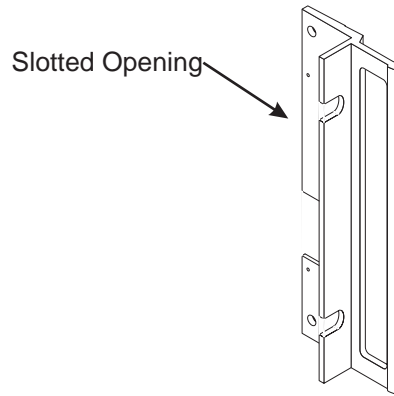

Figure 2-1. Rack Mount Handle Showing Slotted Opening
the kit). Orient the handles such that the slotted opening in the handle mounting plate (Figure 2-1) is toward the bottom of the unit.
- Step 6. For Option 1, install the rack mount assembly to the front and rear using the green-headed screws removed earlier (or use the ones from the kit). Orient the assemblies such that the slotted opening in the handle mounting plate (Figure 2-1) is toward the bottom of the unit.